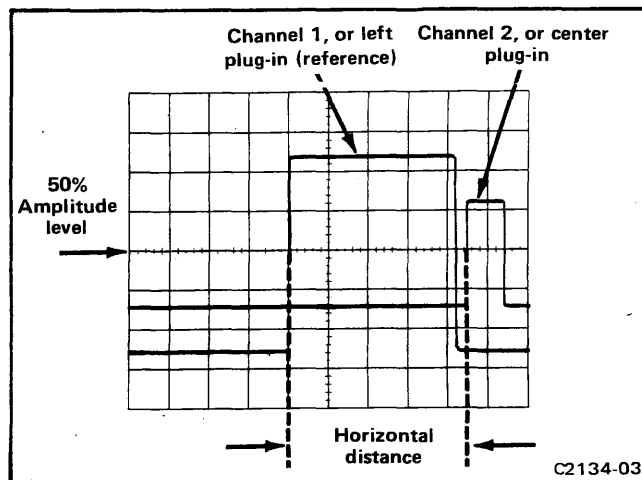

Figure 1-6. Measuring time difference between two pulses.
10. Measure the horizontal distance between the two measurement points (see Fig. 1-6).